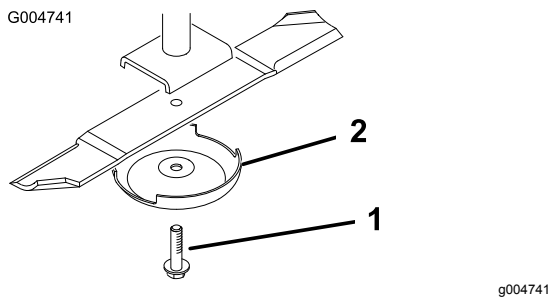

Figure 129
3. Remove the blade bolt, anti-scalp cup, and blade from the spindle shaft (Figure 129).